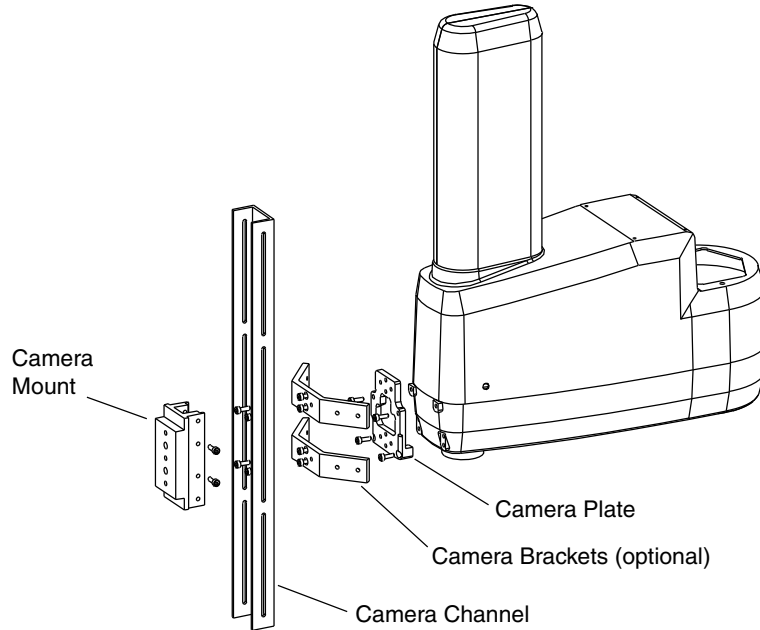

Figure 6-14. Mounting a Camera on the Robot
1. Install the camera plate to the outer link with four M5 x 12 mm screws (see Figure 6-14 as you perform this procedure).